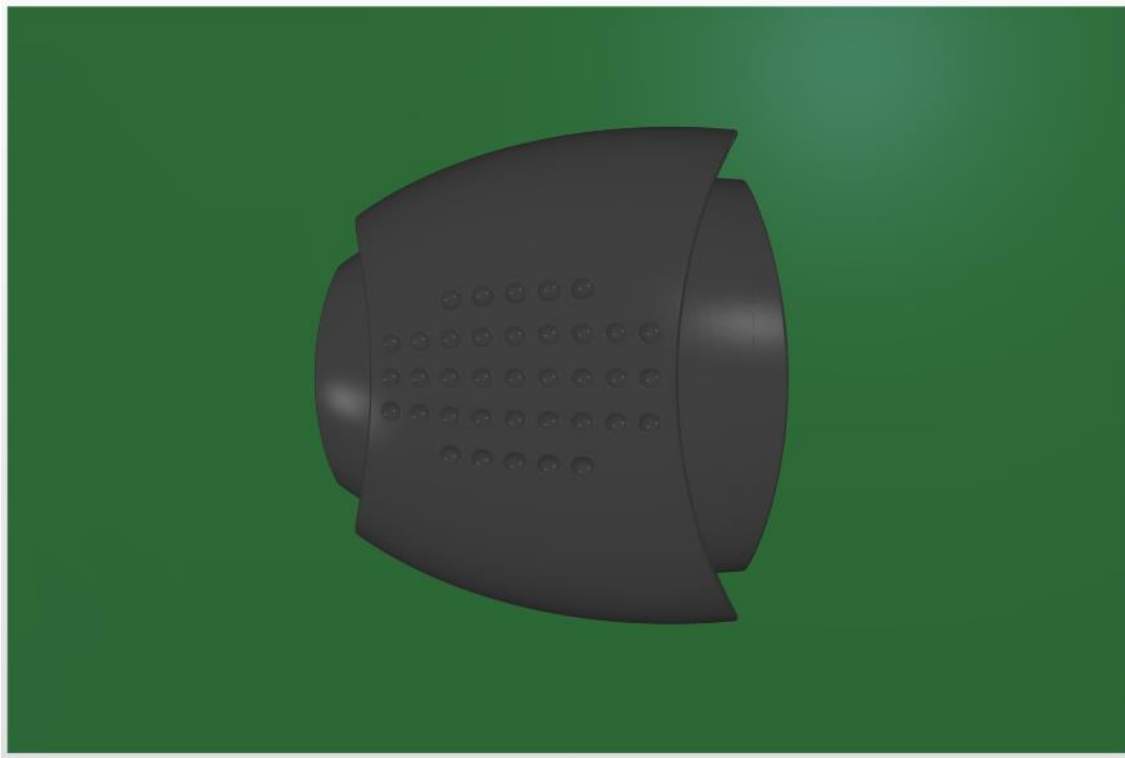

Figure 2. 3D View of Placed STEP Assembly
19. Switch to the 3D view by pressing the **3** key on the keyboard. You will see the added 3D model, as shown in Figure 2 below.